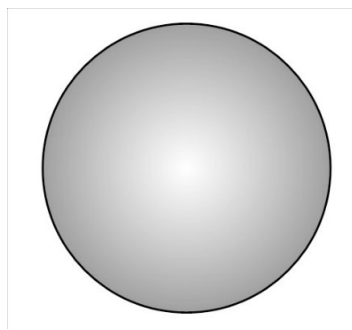

Figure 2.5
Therefore, when the first increment of current starts to flow, it flows in a thin band around the circumference. As more net current flows, the band around the circumference begins to thicken. The current density is highest around the circumference, but lower current densities exist as we look further into the conductor. Only when the magnetic field stops changing (DC) does the current flow uniformly across the entire cross section of the conductor. Figure 2.5 illustrates this relationship.